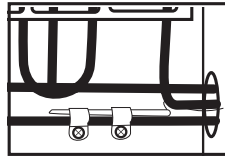

Fig. 1
**CAUTION:** Be careful not to disturb the thermostat and high limit capillaries when cleaning down inside the basin. (Fig. 1)